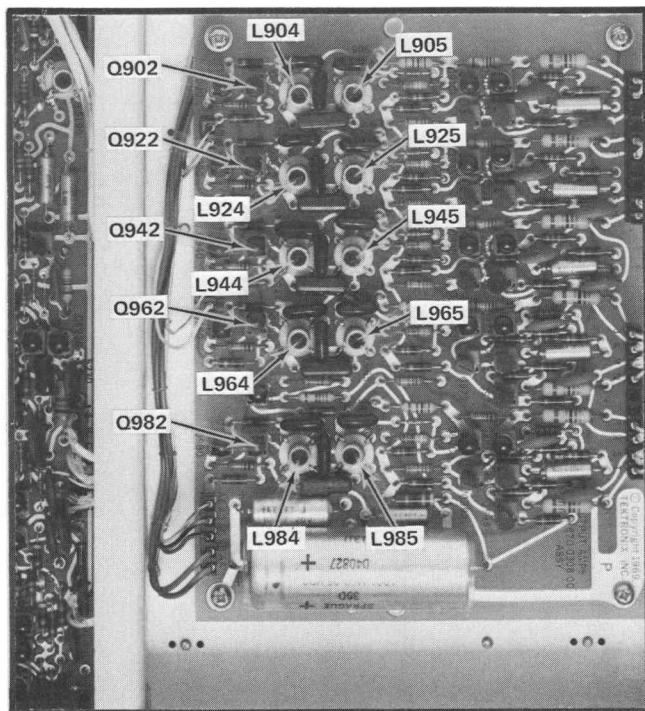

Fig. 6-21. Output Amps board transistor and adjustment locations.
a. Using Fig. 6-21 as a guide, CHECK and ADJUST the 146 outputs as listed in Table 6-7. (Adjust for best square corners on the display.)
g. Remove Q902, Q922, Q962, and Q982. (See Fig. 6-21 for transistor locations.)